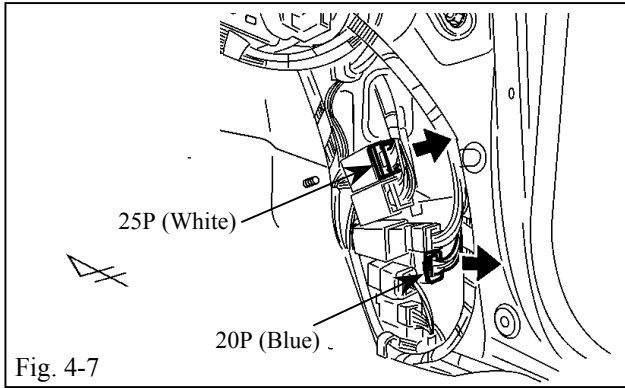

Fig. 4-7
- (k) Locate and disconnect the vehicle harness' white 25P connector and blue 20P connector from the passenger side cowl area. (Fig. 4-7)